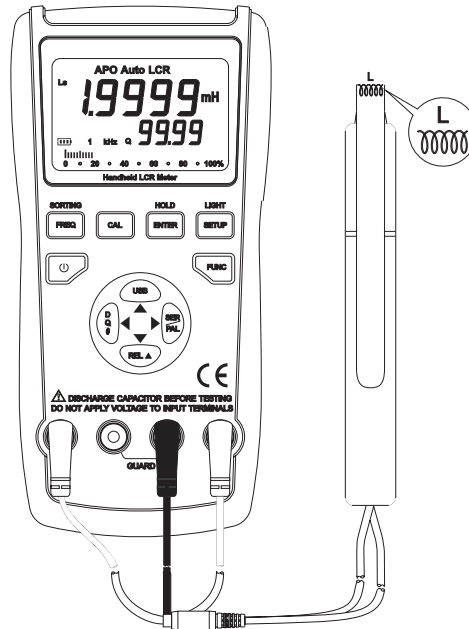

Figure 10
3) Insert inductance into testing port or connect corresponding fittings to measured inductance (shown in Figure 10).